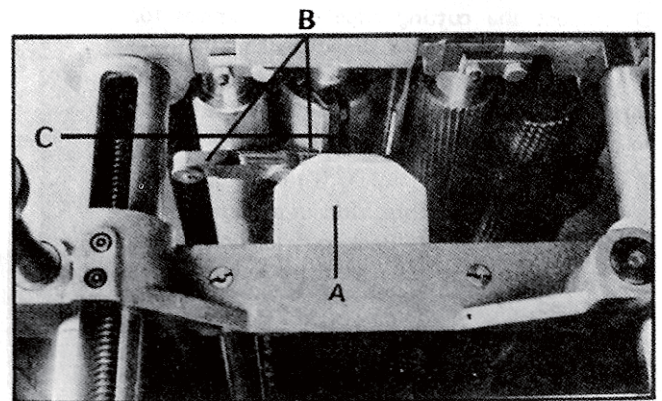

Fig. 30
3. Place the gage block (A) Fig. 30, on the table directly underneath the cutterhead, as shown. Using a 1mm feeler gage (B) Fig. 30, placed on top of the gage block, raise or lower the head until the knife (C) just touches the feeler gage when the knife is at its lowest point. Do not move the head any further until the outfeed roll is adjusted.